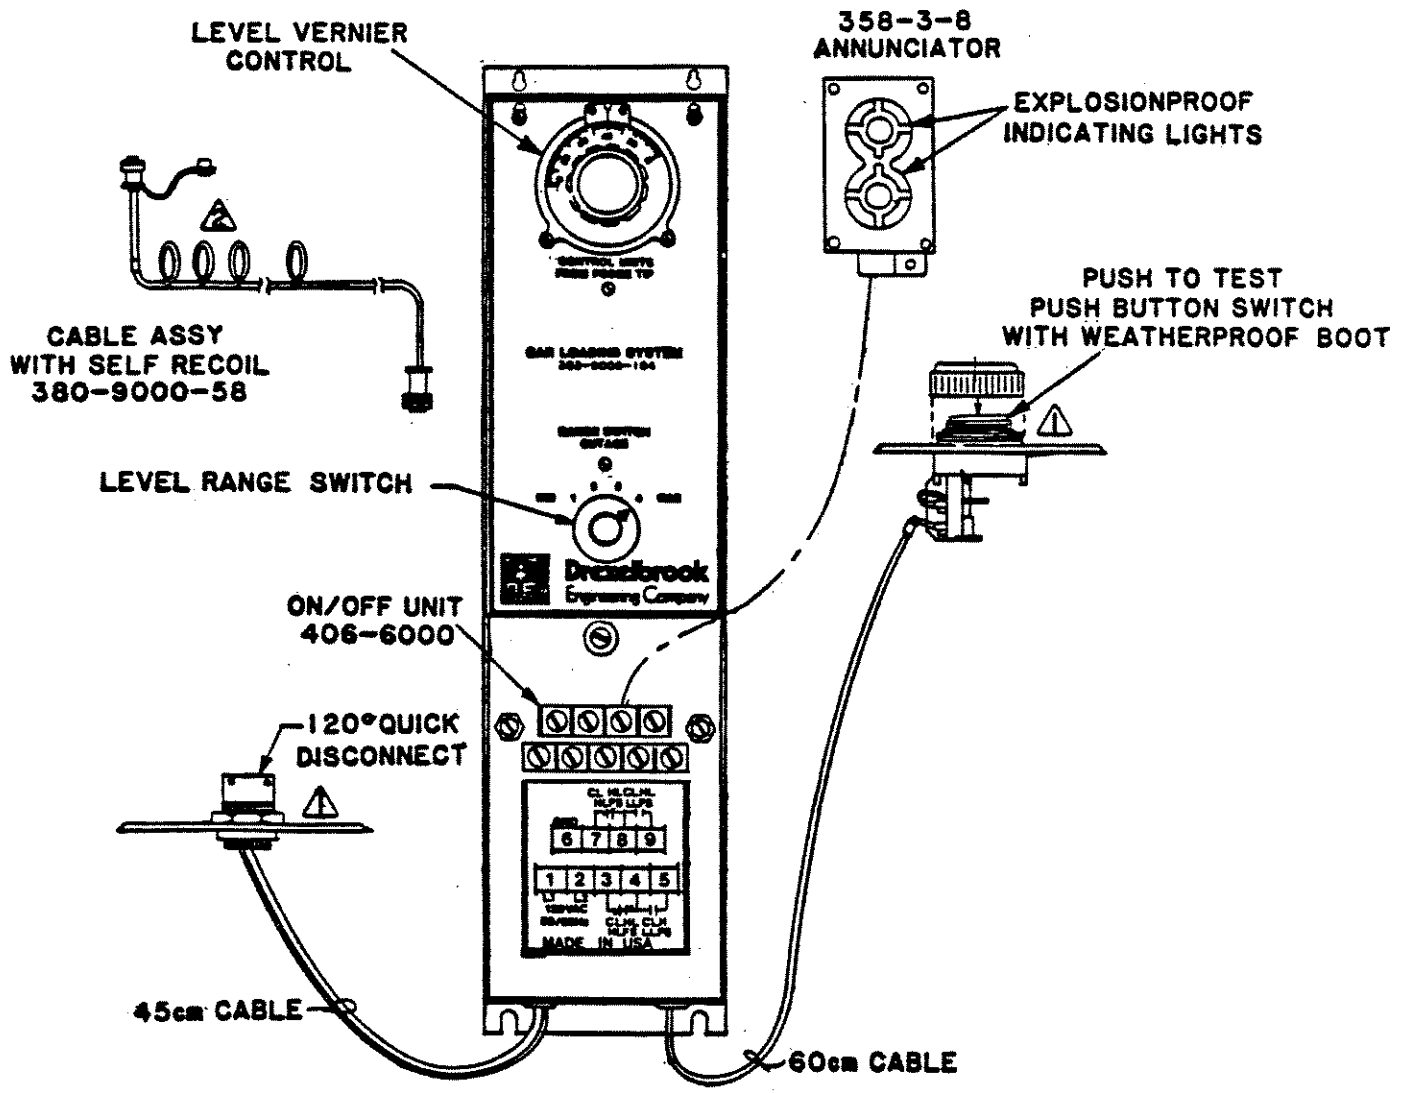

FIGURE 1. CAR LOADING ON/OFF SYSTEM
The required change of input capacitance is provided through the probe which is mounted in or near the material being measured. Drexelbrook 380 series cable transmits the change of capacity signal from the probe to the electronic unit. The Car Loading System seen in Figure 1 consists of an Electronic Unit, Explosion Proof Annunciator, Push to Test Switch, Sensor Cable and Sensor Cable Connector. The Sensors with their integrally mounted connectors are individually mounted on each Tank Car. Proper system operation relies on each Sensor of a Car Fleet being factory adjusted to a common empty (zero) condition.
The Level Range Switch, seen in Figure 1, is located on the Electronic Unit below the Vernier Setter Control. It provides the coarse control for setting the relay set point relative to the car mounted sensor. The switch provides 4 overlapping control ranges. Position 4 represents the range of maximum outage providing a switching range (for the specified material) nearest the tip of the sensor. Similarly position 1 represents the range of minimum outage providing a switching range nearest the top of the car and the sensor mounting.
The Level Vernier Control, seen in Figure 1, provides a fine vernier adjustment of the relay set point within the range set by the Range Switch (ref. 3.2.3). The Vernier Control is continuous providing essentially infinite resolution over its range. The vernier dial is marked in arbitrary units useful primarily as points of reference for resetting the vernier.
- c. Open Electronic Unit cover, ref. Figure 1, to access Zero Set Control on 406-6000 chassis.